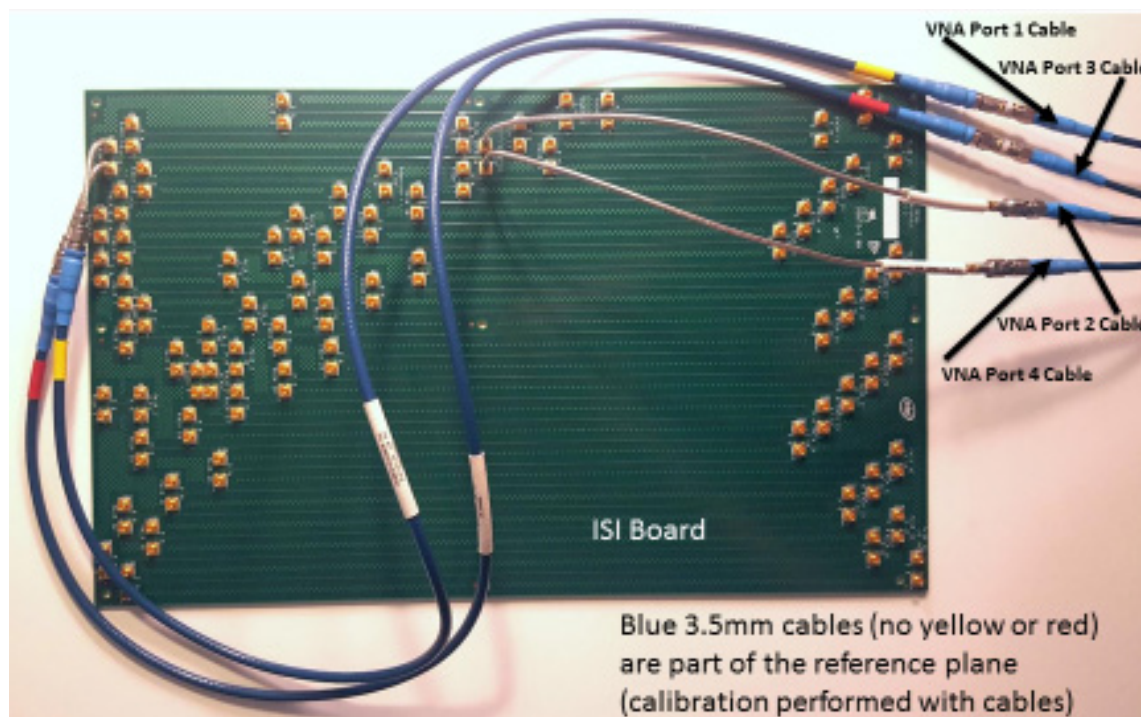

Figure 11. System RX CAL (Variable with Cables)
- ❑ Variable ISI with cables (ISI board, SMP cable, and SMA cable), see Figure 11.